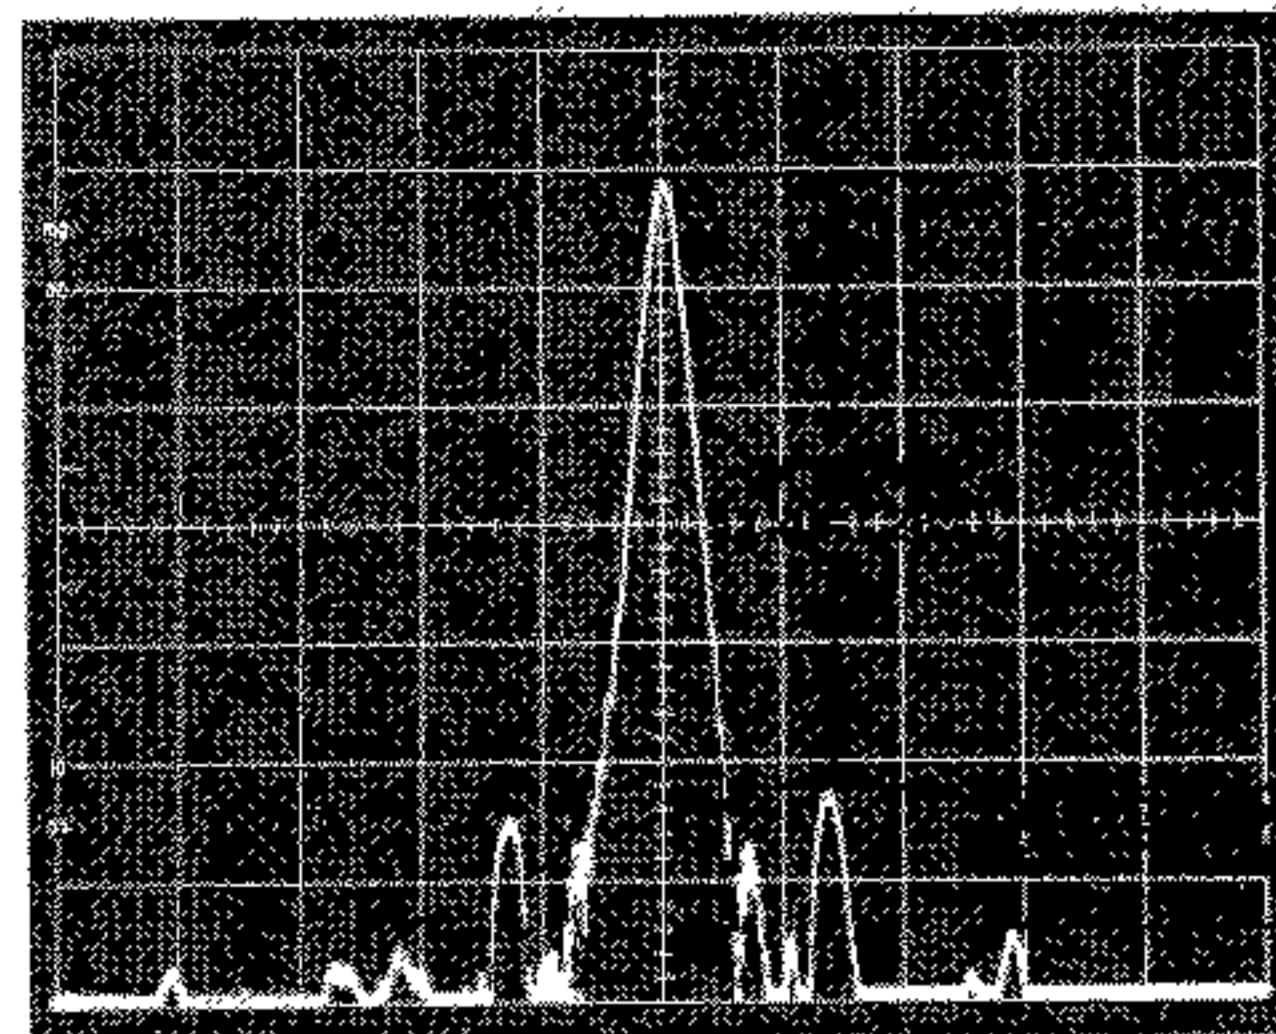

Figure 28 SMPTE Modulation Method of Measurement
6. Figure 28 is a typical display. The sidebands that appear around the base of the 6000 Hz tone are modulation components of 60 and 120 Hz, generated by the 60 Hz tone. Use the chart in Figure 21 to calculate the sum of the 60 Hz, 120 Hz, and other visible modulation components that appear on one side of the carrier only. Do not add the upper and lower 60 Hz or 120 Hz components together. Percentage of intermodulation distortion can be calculated from the chart in Figure 20.